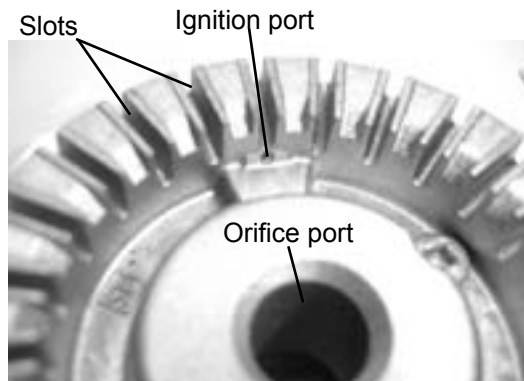

Figure 1 - Regular burner head
Should you experience ignition problems it may be that an ignition port hole is partially blocked with soil (see figs 1 & 2). With the burner head in place, use a small wire gauge needle or the end of a paper clip to clear the ignition port or ports.
2. Locate glide lever on each side of drawer, pull up on the left glide lever and push down on the right glide lever (See Figure 1).